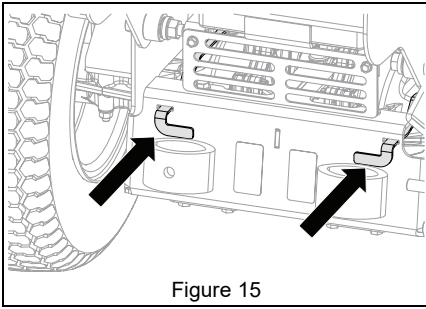

Figure 15
6. Push bypass levers into operating position. See Figure 15.